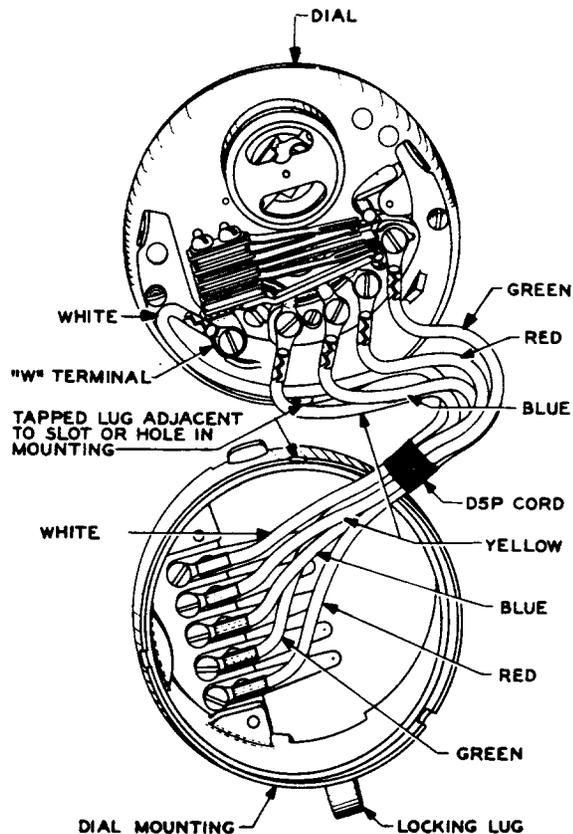

Fig. 5—Method of Cording Dial Mountings and Dials Having Their W Terminal As Part of the Contact Spring Assembly, Using DSP Cords
5.01 *Dials Having the W Terminal as Part of the Contact Spring Assembly (See Fig. 5):*
tracers in the leads in certain type cords) with the lettered abbreviations on the dial adapter; Y indicating yellow or yellow tracer, B indicating blue or blue tracer, etc. Run the white lead or the lead with the white tracer under the other leads to prevent snagging the lead on the contact springs of the dial. Where the No. 765 cord is used, run the white lead inside of the V-shaped embossing in the dial adapter. Angle the leads about as shown in Fig. 5 or 6, depending on the type of dial cord used. Set the cord tips so that the leads are approximately parallel and do not cross each other. Tighten the cord tip mounting screws firmly.
5.04 Place the dial mounting in front of the dial, as shown in Fig. 5, so that the tapped lug in the dial adapter nearest the Y terminal is adjacent to the slot or hole in the dial mounting which is about opposite the locking lug. Cord the dial mounting as shown in Fig. 5, connecting the leads to their proper terminals, matching
5.05 Dials Having D5P Cords: After the cord has been firmly connected to the dial and dial mounting and with the dial and dial mounting placed adjacent to each other, as described in 5.04 and illustrated in Fig. 5, fold the dial mounting over the dial, using the tapped lug in the adapter nearest the Y terminal of the dial as a pivot. While doing this, position the coiled part of the leads, particularly the white and yellow leads, so that they will not be clamped against the dial by the dial mounting. When the dial and dial mounting are assembled in this way the individual leads of the cord should form a spiral which clears the contact springs of the dial. Be sure that the cord tips do not touch each other or the dial and dial mounting.